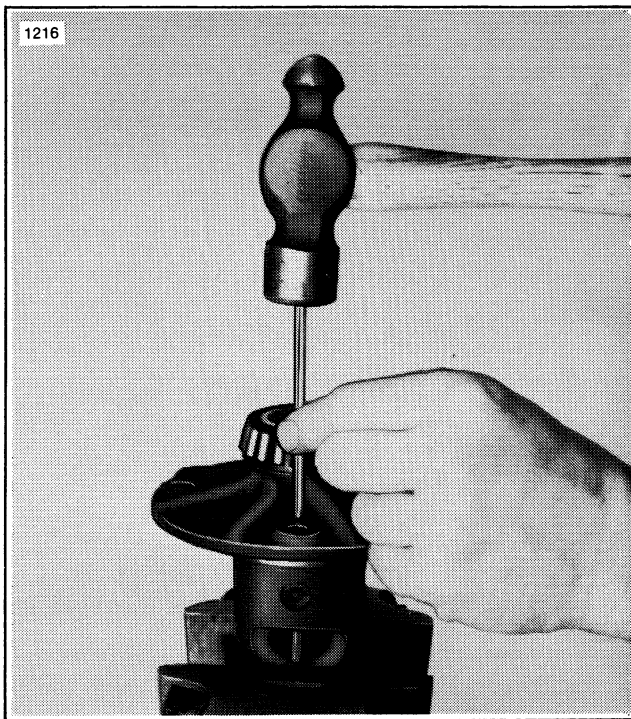

Figure 3-16. Driving Out Lock Pin
14. Drive out lock pin (9) which secures pinion mate shaft (14) to differential case (10) (Figure 3-16).